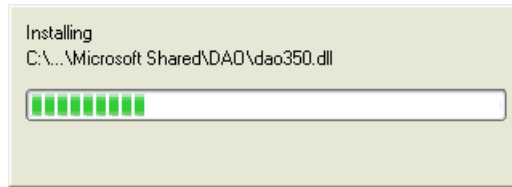

Figure 6-1. Progress Bar
**Step 8:** A progress bar displays as ValveLink PLUG-IN for PRM is installed as shown in figure 6-1.